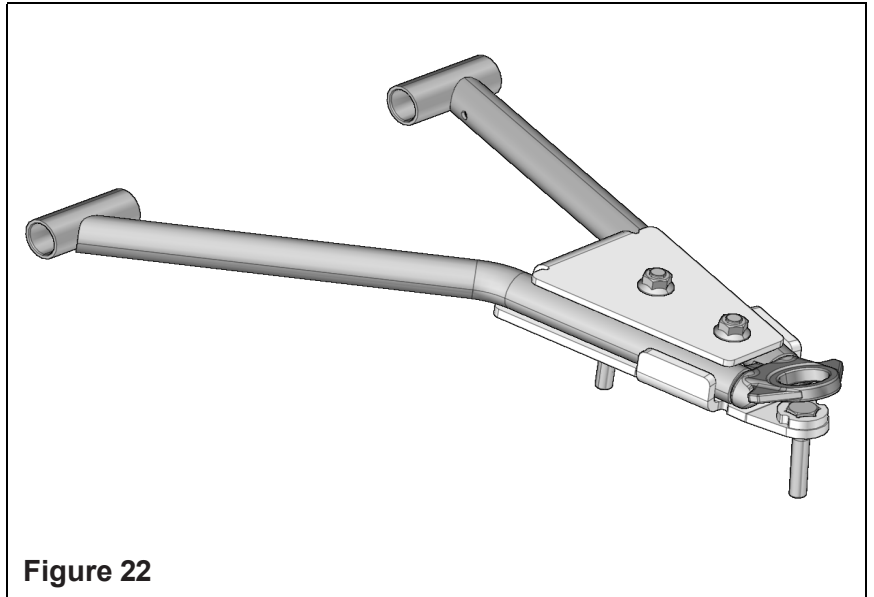

Figure 22
10. Tighten assembly to 37 ft. lbs. (50 Nm) of torque. Figure 22.